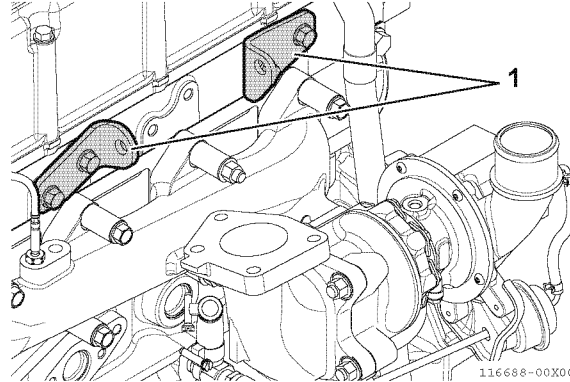

Fig.24-19
- 1 - Temporarily install the two stays (1, Fig.24-19), which fasten the low-pressure stage turbocharger (upper side) and cylinder head, to the cylinder head using the M10 bolts.